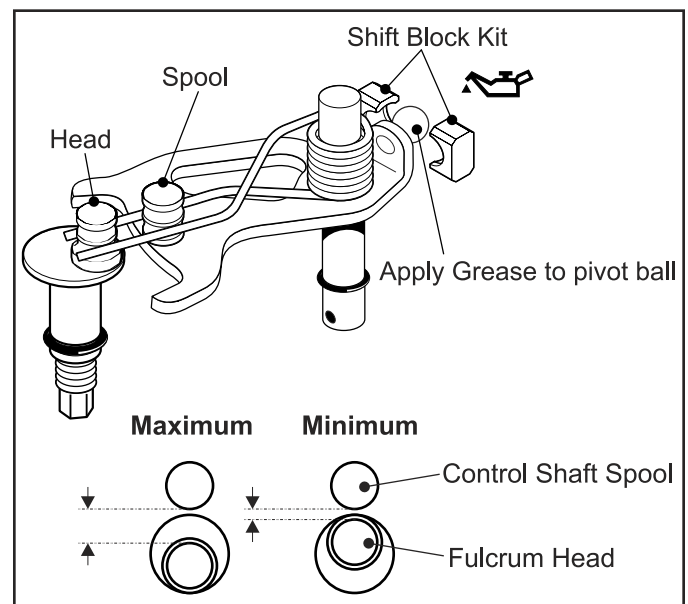

Fig. 15, Shift Blocks - Fulcrum Assembly
4. Apply an ample amount of grease to the inside surface of the Shift Blocks and to the pivot ball; then, press the Shift Blocks to the pivot ball. The grease will help retain the Shift Blocks in position during installation and alignment of the Swash Plate Assembly. See "Swash Plate Assembly" step 3 on page 24. (Fig. 15)
6. Rotate the Fulcrum until maximum distance is achieved between the Fulcrum head and the Control Shaft Spool. (Fig. 15)